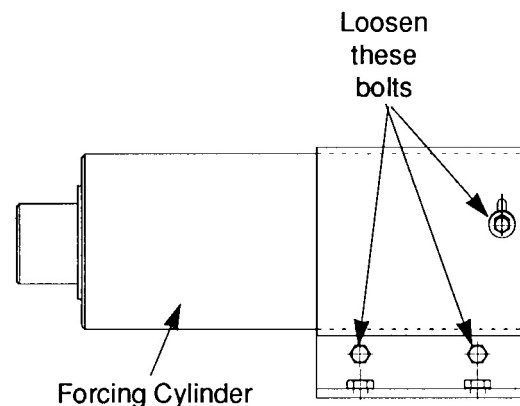

FIGURE 6
1. When viewing the puller assembly from the rear, loosen the three clamping bolts that are on the left side and near the bottom of the base of the forcing cylinder. Refer to Figure 6.